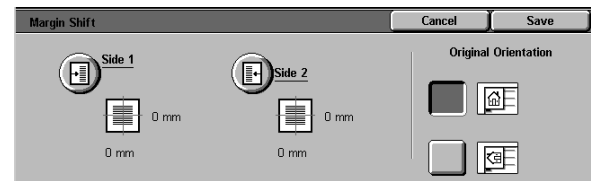

Figure 19: Margin Shift screen
- 1 Touch the **Margin Shift** button on the Added Features tab to display the Margin Shift screen, as illustrated in Figure 19.